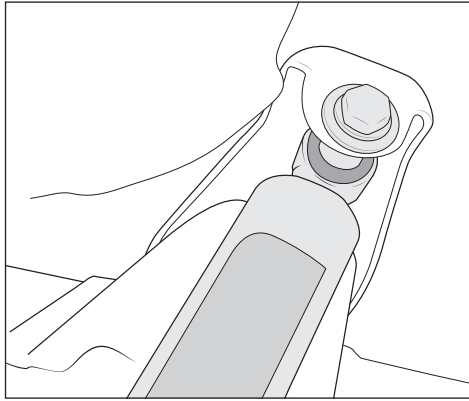

Figure 9
10. Install new shocks at upper mount using factory hardware (remove the plastic banding and use the longer two shocks in the rear). Shock body sits at the top with AEV graphic facing outward at vehicle (Fig 9).